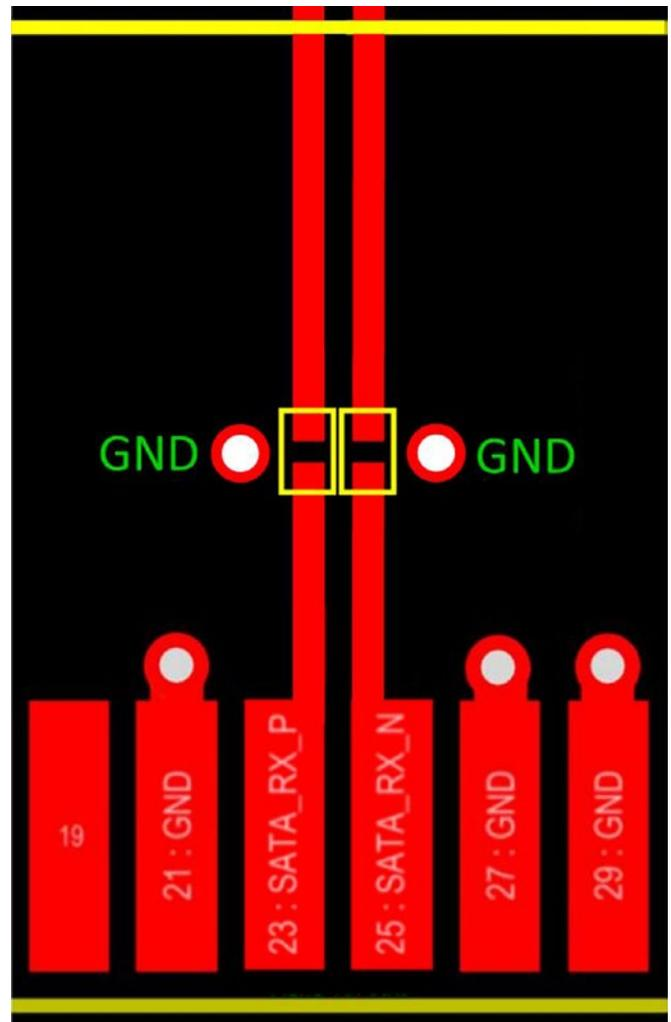

Figure 3: 200  $\mu\text{m}$  trace with 01005 capacitors.
2. A more elegant alternative is to use a smaller capacitor such as a 01005. The explicit assumption (above) is that capacitor land width exceeds the trace width and hence represents a short section of transmission line that requires a cutout to maintain impedance. However, a 200  $\mu\text{m}$  trace can be used in conjunction with a 01005 package of 200  $\mu\text{m}$  land width to avoid the impedance mismatch altogether. In this case, the cutout is not required (Figure 3). Note that the required wider trace will reduce the impedance, so a thicker dielectric will be necessary to control impedance.